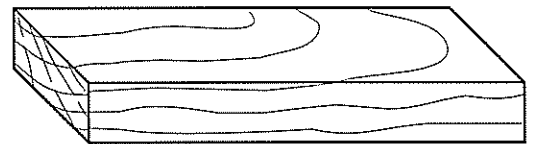
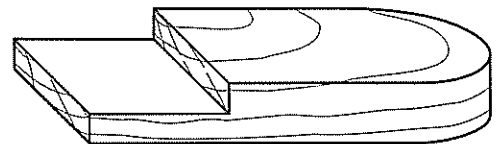

Figure 1
Figure 2
17. Figure 1 shows a piece of softwood which is to be shaped as shown in Figure 2. List the measuring, marking and cutting tools you would need to do the job.